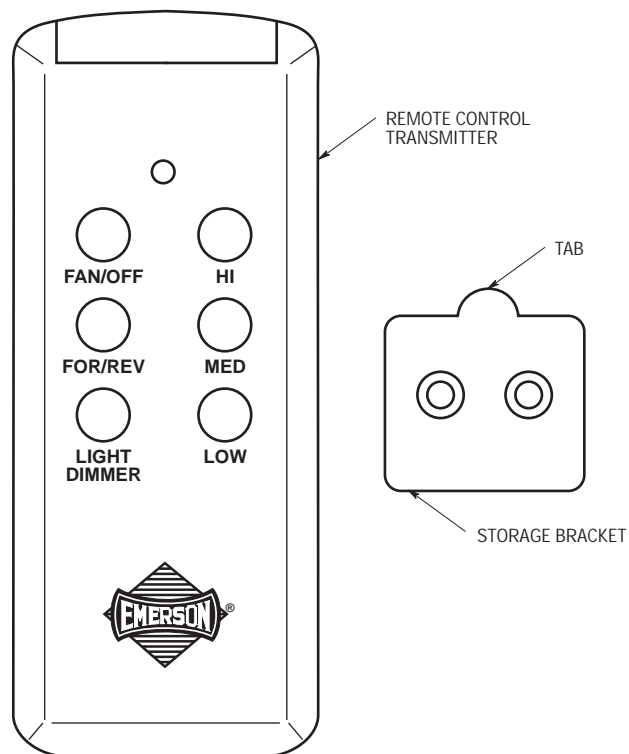

Figure 14
- ☐ 1. To set the desired fan speed, press the HI, MED, or LOW buttons to operate your fan on high, medium, or low speed (See Figure 14).
A storage bracket is supplied with the remote control for holding the transmitter when not in use. If you desire to use the bracket, use the two screw (supplied) and install it on a wall that is away from excess heat or humidity. When installing, orient the bracket so that the tab is at the top and away from the wall (See Figure 14).